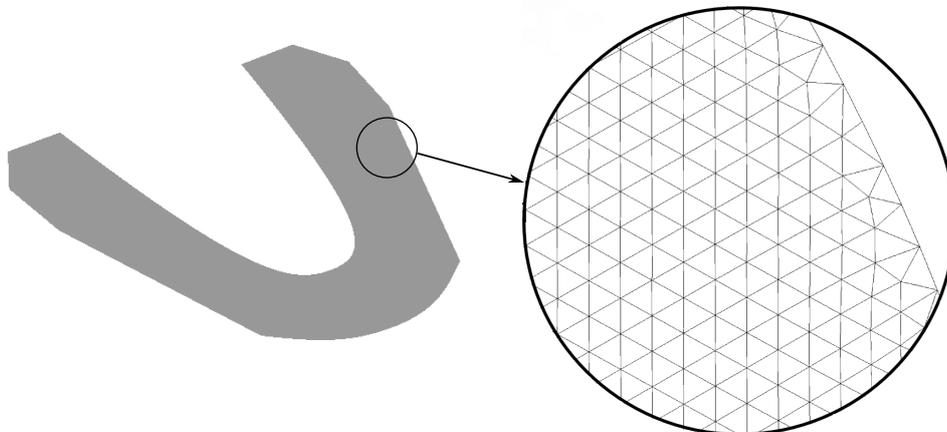

Figure 2.5: Detail of a mesh (triangulation)
5. The base plate mesh shall have a regular triangulation, i.e. shall consist of nearly equilateral triangles, with **edge lengths of between 0.25 mm and 0.5 mm** (see Figure 2.5). Equilateral triangles lead to best results in calculation. An edge length in the recommended range results in good accuracy with reasonable file size and computation time.